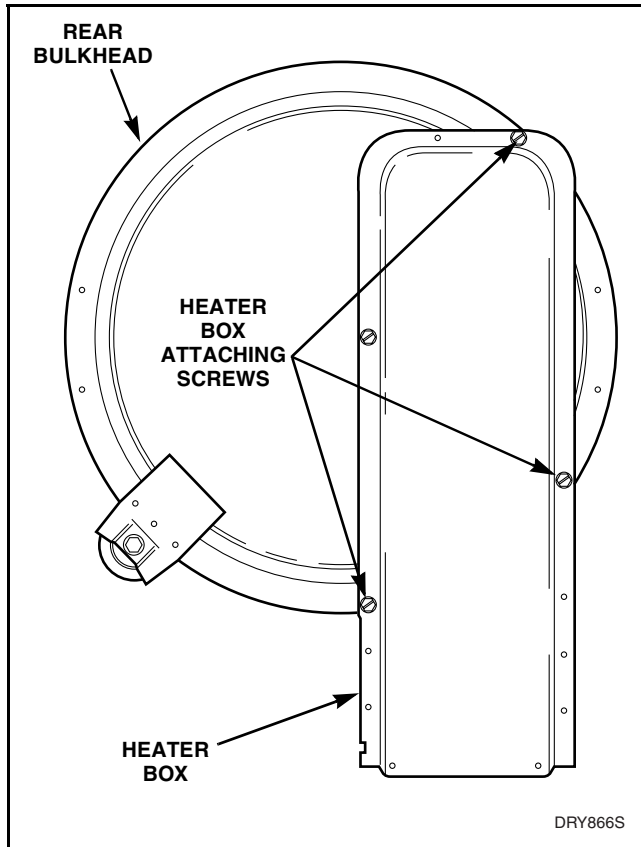

Figure 37
- (1) Refer to *Figure 37* for removal.